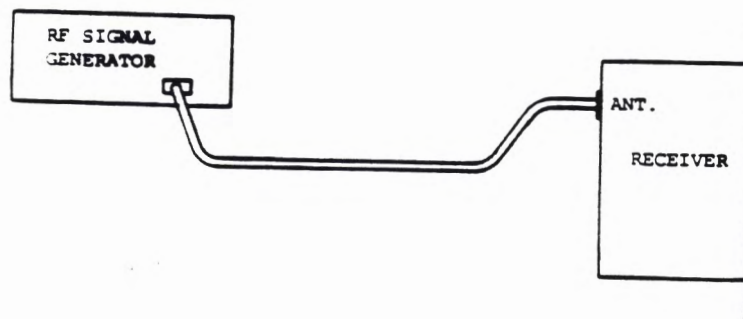

Figure 6-3. Selectivity test setup.
1. Connect the equipment as shown in Figure 6-3. Set the controls on the signal generator as follows: